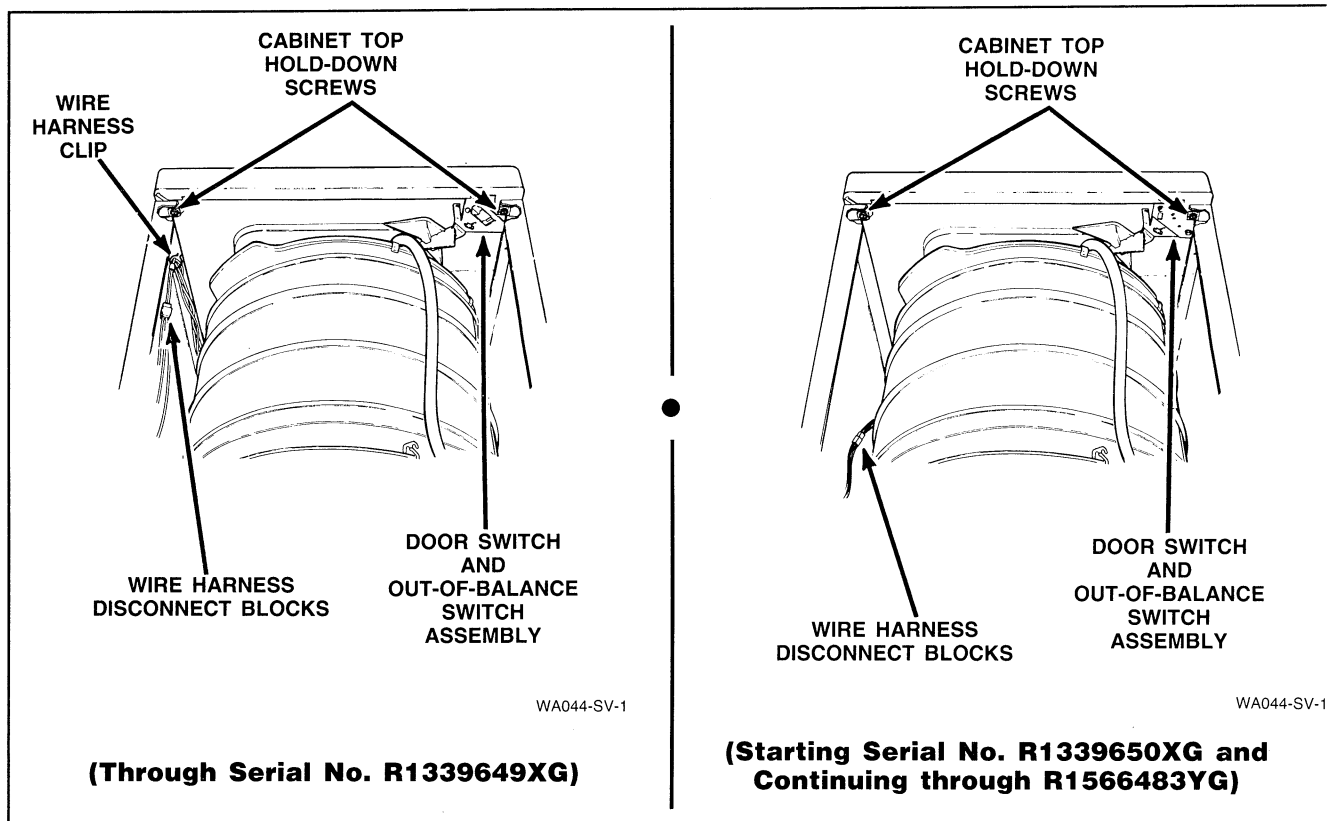

Figure 23
- Disconnect motor wire harness from base wire harness at disconnect blocks, *Figure 23*.
- Remove two cabinet top hold-down screws, Figure 23.
- Disconnect wire harness at disconnect blocks, *Figure 23*.
NOTE: Starting with serial Number R1339650XG and continuing through R1566483YG, the motor wire harness and the base wire harness disconnect blocks are secured to the left side of the washer cabinet with double sided tape. If the disconnect blocks are removed during service, then a new piece of tape will be needed to hold the harness disconnect blocks to the inside of the washer cabinet, *Figure 23*.
- Through Serial No. R1339649XG, remove wire clips holding wire harness and pressure hose to top flange of left side of washer cabinet, *Figure 23*.
- Remove two cabinet top hold-down screws, *Figure 23*.